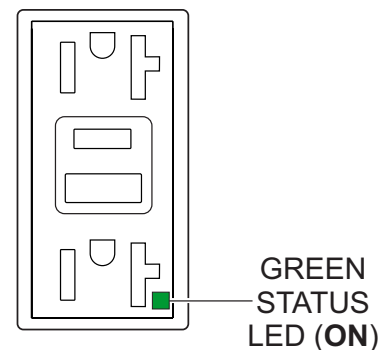

Figure 69. GFCI Receptacle (ON)
3. Verify that the status LED on the corresponding GFCI receptacle (Figure 69) is **ON (GREEN)**.